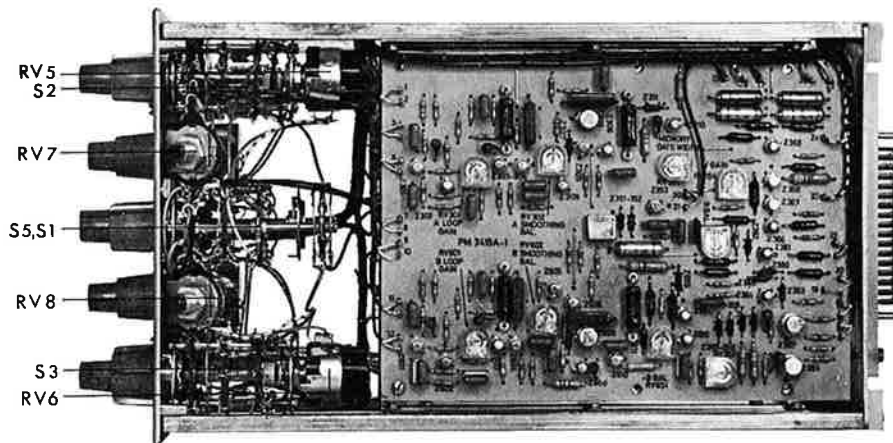

Fig. 5. Top view
4. Adjust B CAL, RV8 (fig. 5), to obtain 8 cm  $\pm$  0.1 of horizontal deflection.
10. Adjust A CAL, RV7 (fig. 5), to obtain 8 cm  $\pm$  0.1 of vertical deflection.